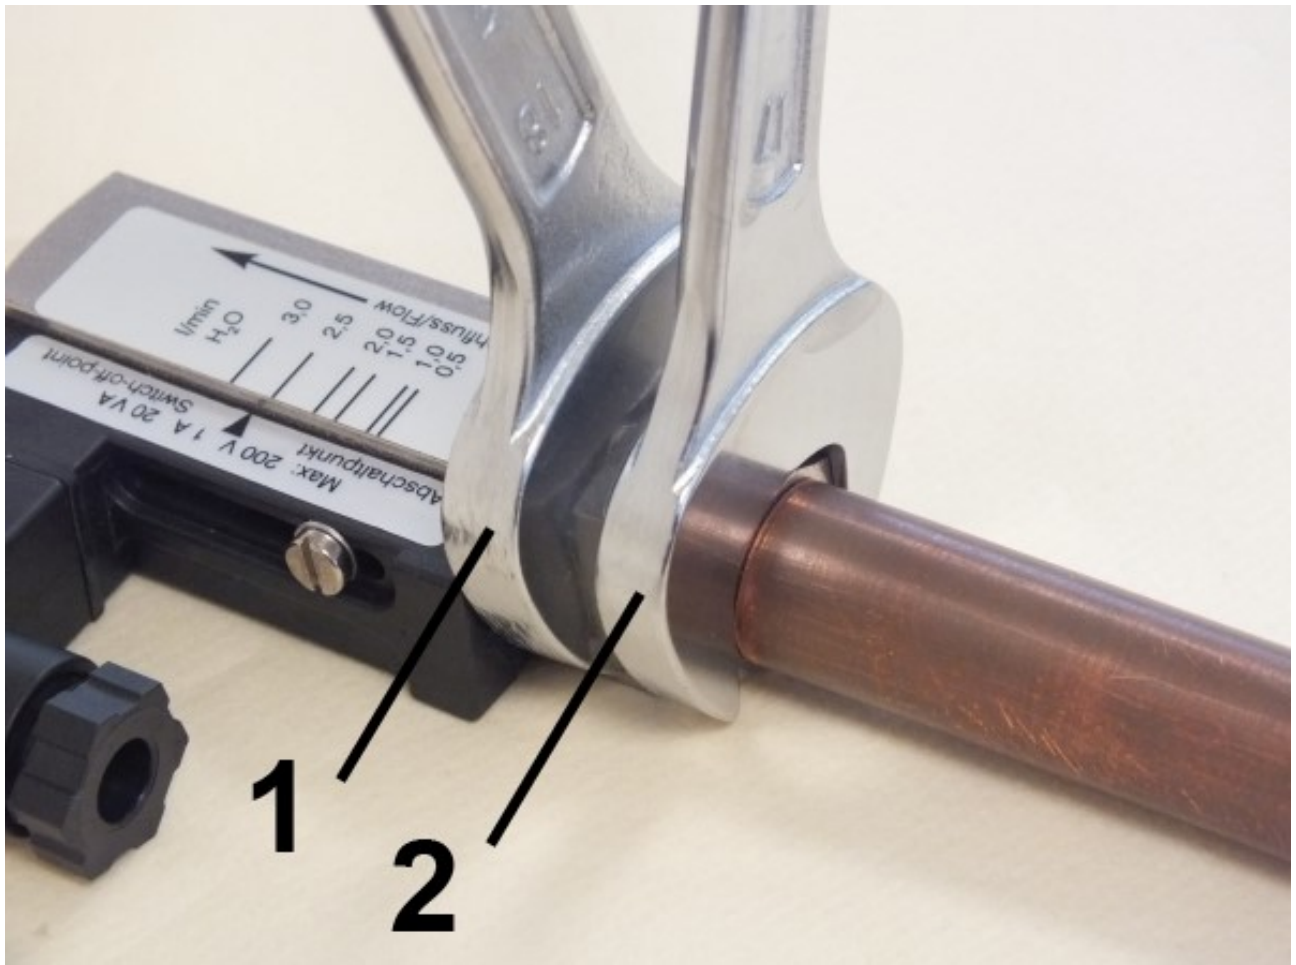

Fig. 11: Screw in the device
3. ➤ Keep turning in the adapter union (Fig. 11/1) while holding the process connection of the device locked (Fig. 11/2) until the connection is tight.